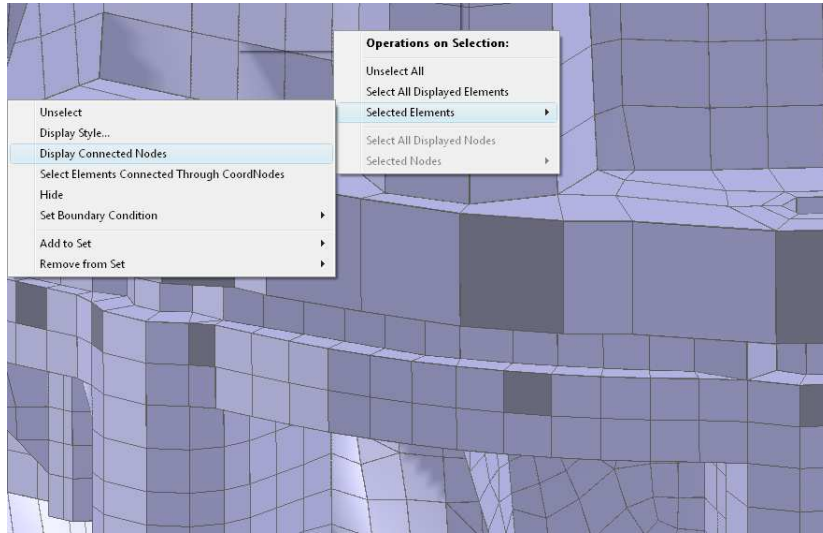

Figure 5.36: Display Connected Nodes for Elements.
- Display connected nodes for the selected elements. Right-click on the selected elements with the *shift-key* held down and select: **Operations on Selection** → **Selected Elements** → **Display Connected Nodes**. See Figure 5.36.